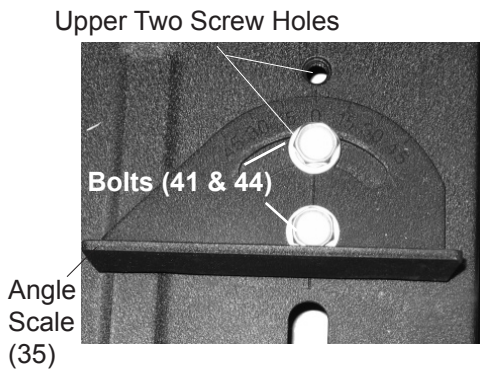

FIGURE 5
- b. To cut at various angles (up to 45 degrees), adjust the Angle Scale (35) by loosening the two Bolts (41 & 44) as shown in **FIGURE 5**. Adjust the Angle Scale to the desired setting and then tighten the Bolts (41 & 44).